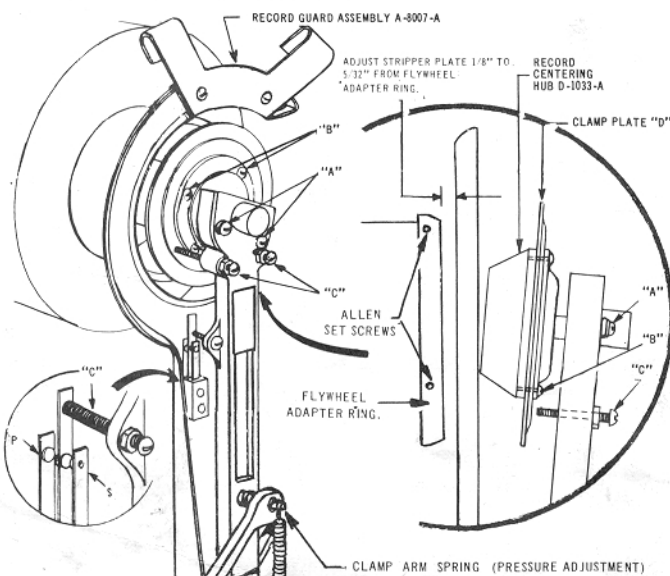

FIGURE 2. CLAMP PLATE AND ARM
2. RECORD CENTERING HUB (See Fig. 2):
- Remove clamp plate assembly from clamp arm with screws "A" (Fig. 2).
- Remove screws "B" (Fig. 2) and screw new "Record Centering Hub D-1033-A" to the inside of the clamp plate with the four new #2-56 x 1/4 round head screws and 4 #2 lock washers furnished. Discard old screws "B". Replace clamp plate with screws "A".
- E. Replace the clamp plate assembly with the screws "A" (Fig. 2). Adjust for centering when tightening screws "A" by holding the clamp plate in against the fly-wheel face.
- F. The clamp plate "free position" may be adjusted with screws "C" (Fig. 2) if necessary to accomplish the free movement of the new "Record Centering Hub D-1033-A" on and off the "Spider". These screws, however, must not be allowed to drag on the clamp plate when same is pushed in against the fly-wheel face. When properly adjusted, tighten the lock nuts.
(See Fig. 2):
C. Contact "S" should be closed with about one ounce pressure during scanning ("Clamp Plate" out.) (Fig. 2).